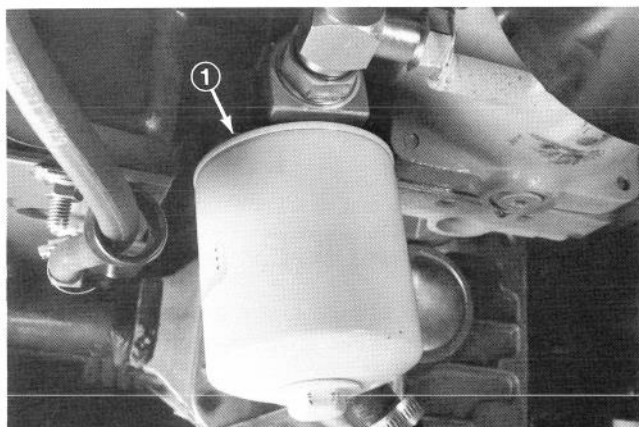

Figure 63
- Clean area where hydraulic oil filter mounts. Remove filter from base (Fig. 63) and clean filter mounting surface.